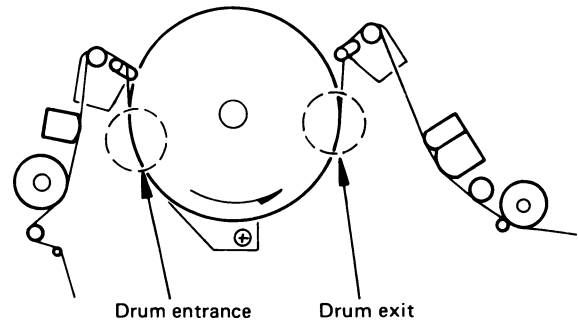

Fig. 2-19 Drum entrance/exit
2. Confirm that the left edge of the tension pole (section A in figure 2-19) lies upon the side edge of the main-deck.
- 1) During PLAY mode, observe tape at the entrance and exit portions of the drum lead (refer to Figures 2-19 and 2-20).